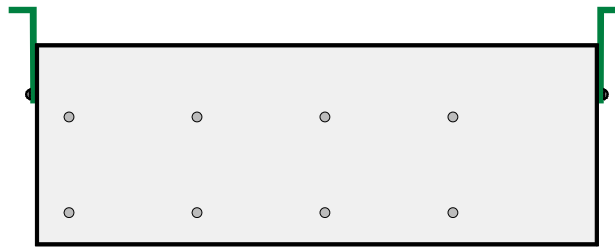

Figure 6 – Wall Mount Bracket Positions
1. Attach mounting brackets to the Battery Backup and/or Add-on Battery in the wall mounting position using the supplied mounting bracket screws (see Figure 6).